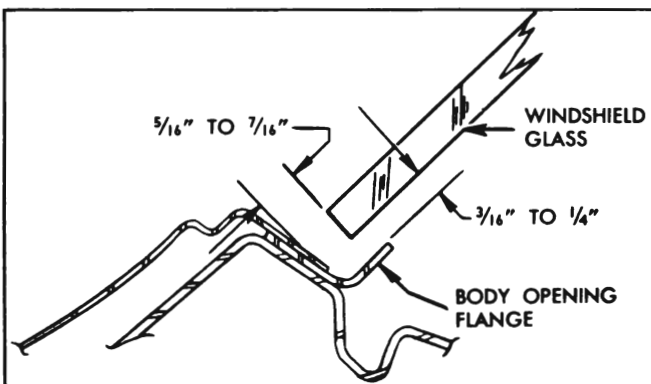

Figure 13-8—Windshield Glass to Pinchweld Clearances
4. Figure 13-8 shows a typical cross-section taken through glass and body opening. Spacing between glass and metal should be as follows: